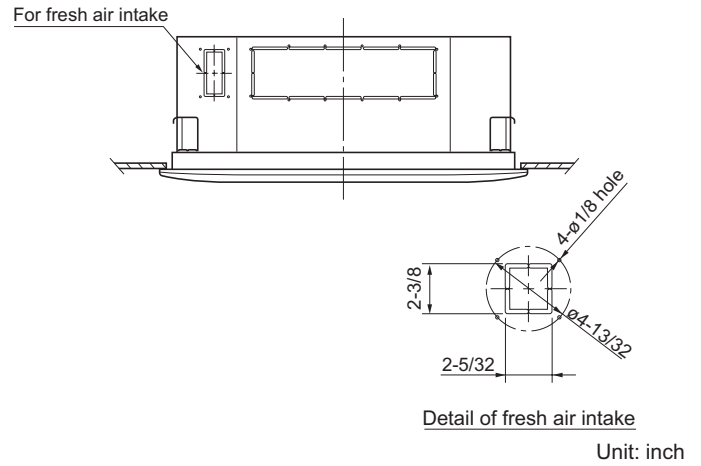

Fig. 1-61
- There is a duct connection part on side of the indoor unit. (Fig. 1-61)